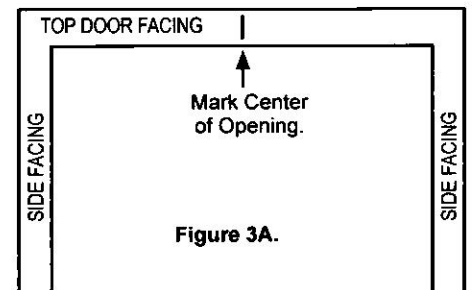

Figure 3A.
2. Measure across the top door facing and mark the center of the opening. Refer to Figure 3A. Then measure and mark the center of the screen on the head strip and trim the head strip to the desired length by cutting equal amounts from each end. See Figure 3B. **Note:** Allow 1" extra on each end to overlap side molding.